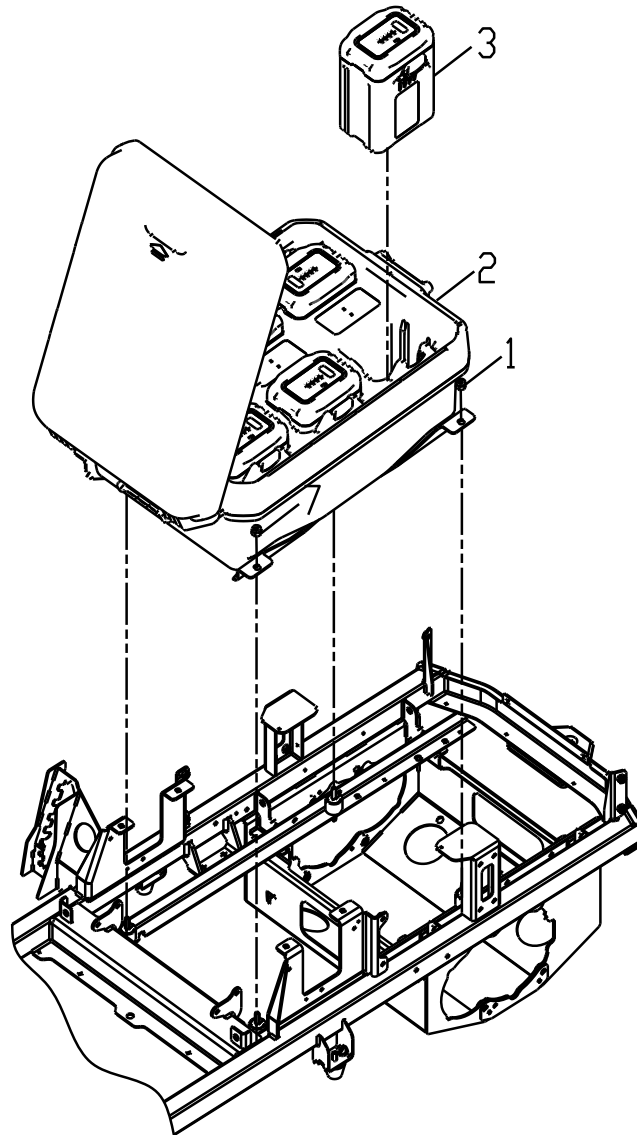

Fig.5
7. Use a 13 mm socket to loosen the four nuts (1) in Fig.5 by rotating counterclockwise and remove them.